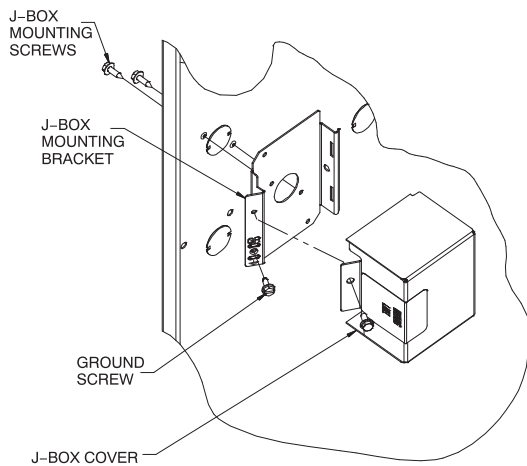

Fig. 34 - Installing J-Box (When Used)
The J-Box cover, mounting bracket and screws are shipped in the loose parts bag included with the furnace. See **Fig. 34** for J-Box mounting locations.
1. Drill two (2) 1/8-in. (3 mm) pilot holes through the dimples in the furnace casing near the 7/8-in. knock-out on the side of the casing. Do not remove the knock-out in the side of the casing.
9. Connect field power and neutral leads to furnace power leads inside the external electrical box as shown in **Fig. 34**.
1. Install J-Box mounting bracket to inside of furnace casing. See **Fig. 34**.
5. Connect field ground wire and factory ground wire to green ground screw on J-Box mounting bracket as shown in **Fig. 34**.
7. Attach furnace J-Box cover to mounting bracket with screws supplied in loose parts bag. Do not pinch wires between cover and bracket. See **Fig. 34**.
4. Connect field ground wire and factory ground wire to green ground screw on J-Box mounting bracket as shown in **Fig. 34**.